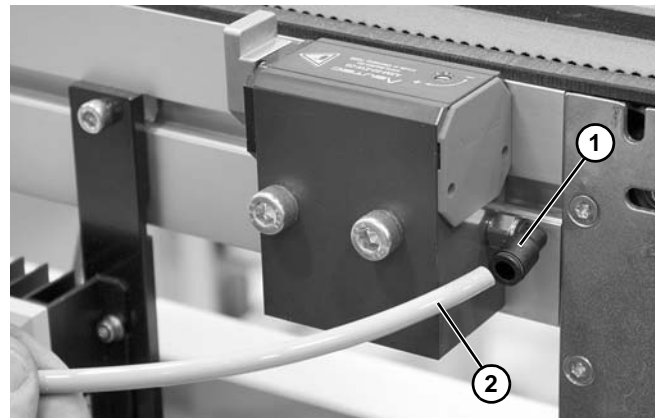

Figure 24
2. Connect the 3-port, 2-way solenoid valve to the stop. Dorner fittings (**Figure 24, item 1**) accept 1/4" outside diameter tubing standard (**Figure 24, item 2**).